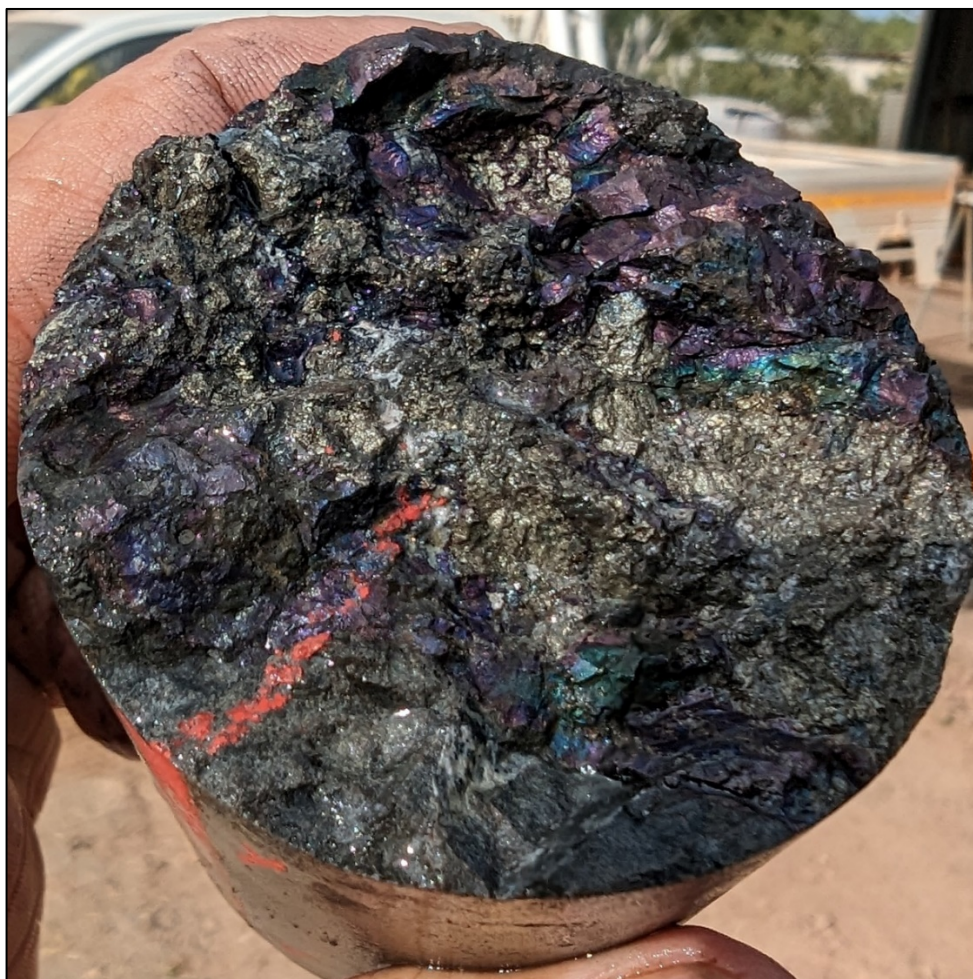

Figure 1 MOXD217 – 250.18 m - end of drill core showing a close-up of covellite, bornite, and pyrite mineralisation.
- 7.25 m\* from 244.35 m with vis. est. of 5-10% covellite, 5-10% bornite, 10% pyrite and 1% chalcopyrite (see Figure 1)